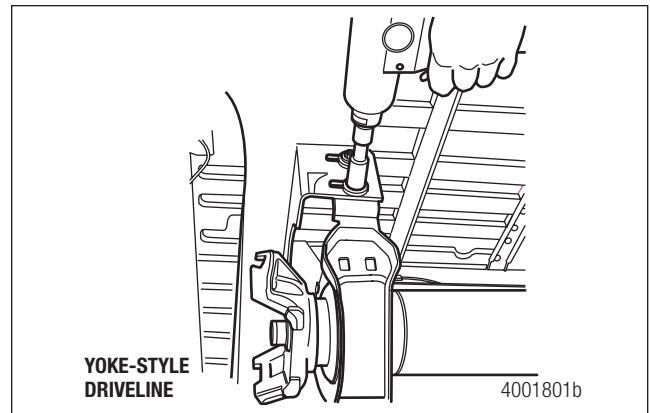
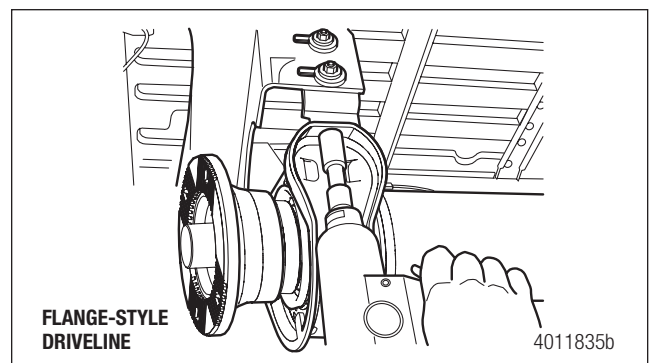

Figure 10.8
Figure 10.9
3. Remove the center bearing bracket bolts. Figure 10.8 and Figure 10.9.